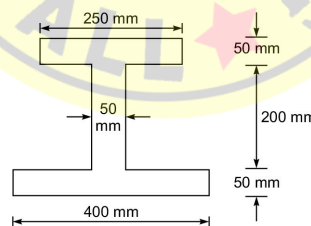

Fig. Q. 73
73. Plastic neutral axis of the section shown in the Fig. Q. 73 from topmost fibre is at a distance